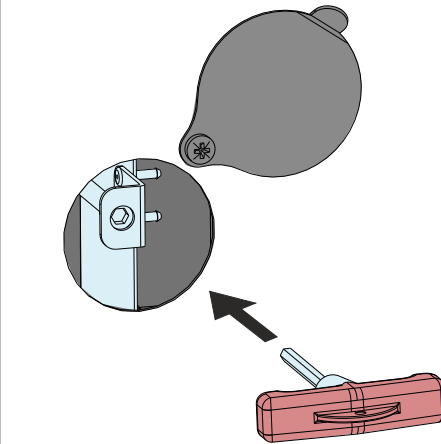

Fig. 31
- Insert the hexagon «T» key (Fig. 31) and turn clockwise until it stops (Fig. 32)